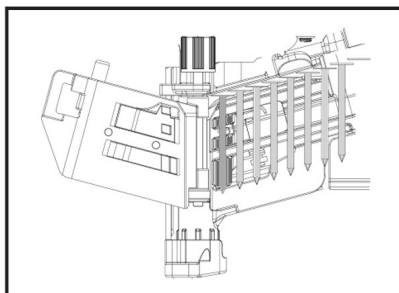

Fig. 4
12. Pull the nails to the right (Fig. 4).